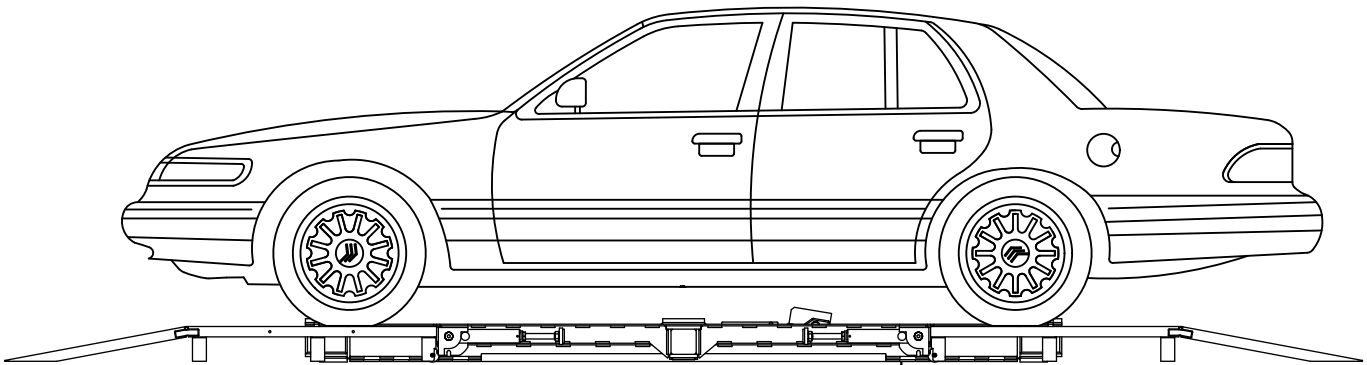

Figure 49
18. With the aid of an assistant to guide you, drive vehicle slowly off of the mainframe until vehicle is clear of all ramps (see Figure 49).